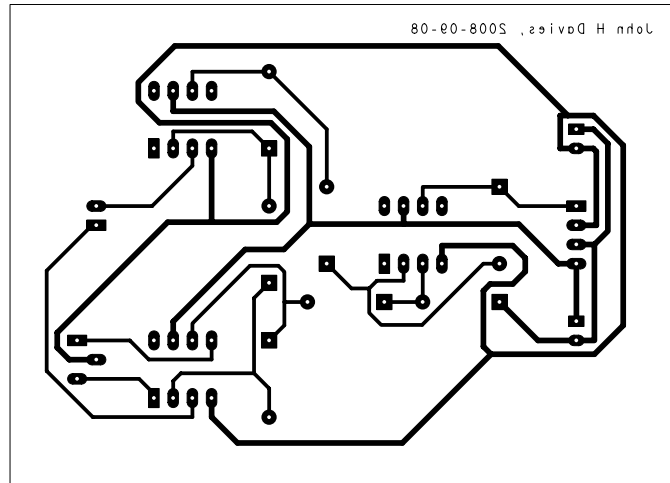

Figure 18. Printout at actual size for manufacturing a single-sided board (bottom layer) with holes in the pads to guide the drill.
9. Finally, choose File > Plot... as usual and you should get a beautiful picture with the board outline, etch and drill holes. Figure 18 on the next page shows my printout for the single-sided board.